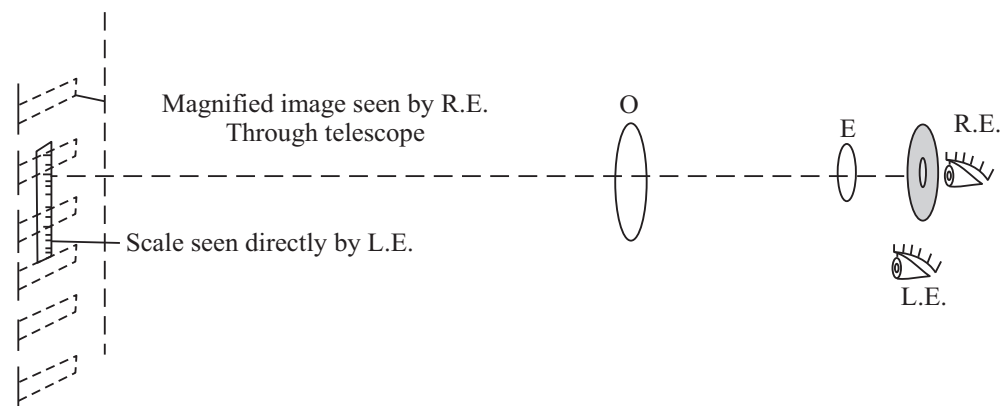

Fig. 19.7
- (ix) Your scale with bold marks is such that it can be seen clearly by your left eye at a distance of upto 20 m. Observe on it the size of the enlarged image of one smallest division seen through the telescope by the right eye (Fig. 19.7). Ratio of the size of this enlarged image to size of the division gives the magnifying power of the telescope.